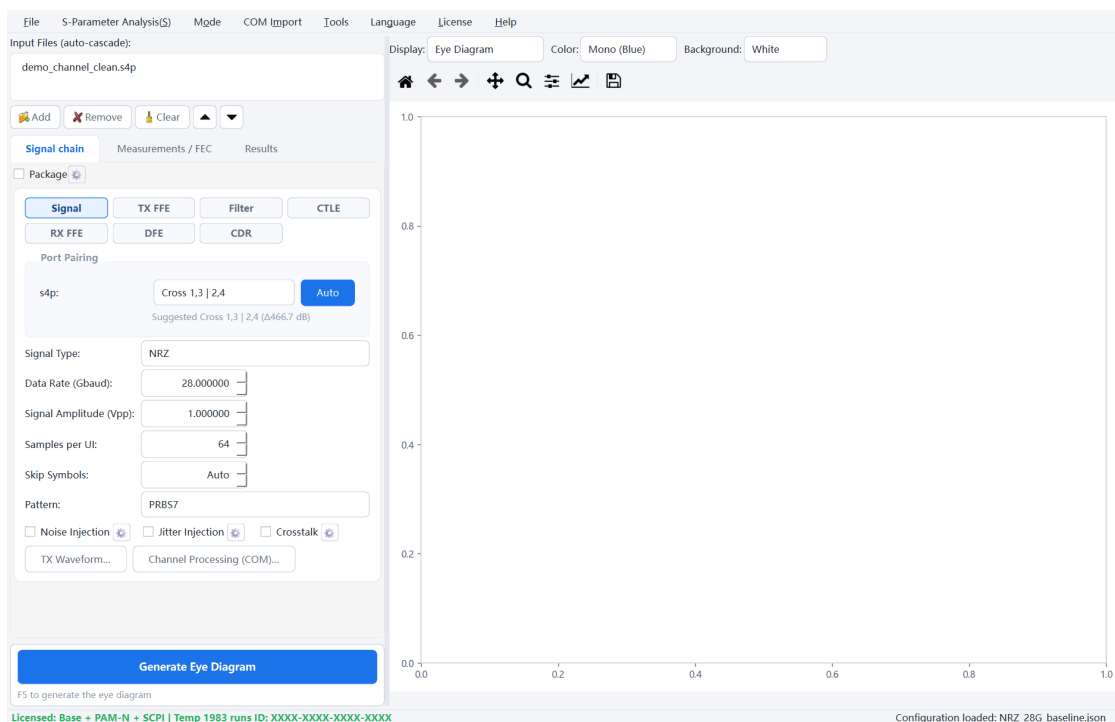

Fig. 1-2 File selected, all defaults — right before generating
Step 3 Select **File** → **Load Configuration...** and load demo\configs\NRZ_28G_baseline.json. Check Signal chain → Signal: **NRZ, 28 GBd, PRBS7, 64 samples/UI, 1 V amplitude**, with cross differential pairing. Equalizers, crosstalk, jitter and FEC are off. Only the clean channel should be listed (Fig. 1-2). REA remembers settings: restarting alone does not restore defaults.